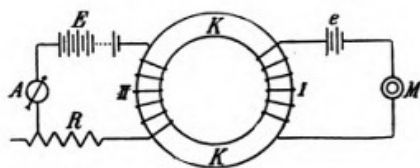
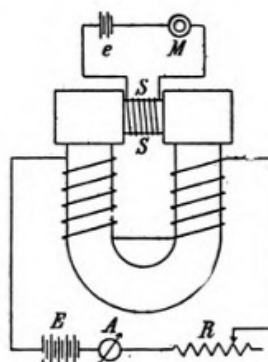
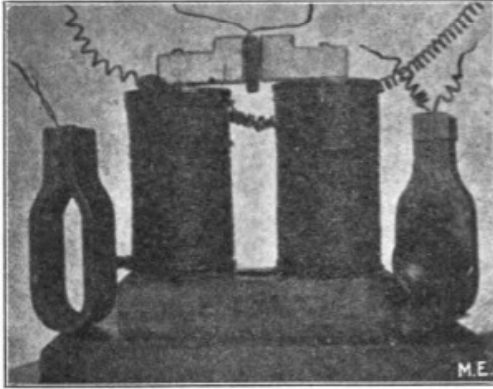

Fig. 1
Fig. 2
Fig. 3
Professor Peukert developed his experiments as follows. He first took an iron ring, K, Fig. 1, made of soft iron wire, wound in one piece. He
The second experiment is illustrated in Fig. 2. Fig. 3 shows the arrangement as actually used by the experimenter.
the smallest particle. This explains why the new instrument reproduces so powerful. This result can even be increased by placing a shallow, funnel shaped ear piece on one side of the magnet (Fig. 3, right-hand side). By pressing this against the ear the faintest sounds are made audible.
Another, and very important, feature of the new receiver is that the disagreeable crackling noises so often experienced with the old receiver are entirely eliminated. Fig. 3 (left-hand side) shows the simplest form of this receiver.
By referring to Fig. 1 it will be seen that the arrangement closely resembles the ordinary A. C. transformer. Therefore experiments were made with regular commercial transformers, the results always being surprisingly satisfactory. The big trans-
Examine the base of the clock to see if it is made of wood, which is nearly always the case. If so, mount the strip of brass or copper, as shown in Fig. 1 at S. When the hammer H (Fig. 1) is raised, indicated by dotted lines, it will make contact with the spring S, which is held in place by the bolt B passing through the spring S and the bottom of the clock. In case the bottom of the clock is not made of wood or some other insulating material (which would be a rare exception), the bolt and spring must be insulated from it by rubber or leather washers X (Fig. 2). The hole in the base of the clock will have to be about three times the diameter of the bolt, so
that the bolt will not touch the sides of the hole (Fig. 2). The washers P are brass or copper.
-FIG 2-
can be easily constructed. The arrangement of the striking circuit is shown in Fig. 3.
M.E. -FIG. 3-
over the end of the upper set screw, so that the armature will make no noise on being released. These bells or sounders are connected in series, as shown in Fig. 3. The number of cells of battery required depend upon the length of circuit and number of strikers used. Common dry cells, or salomonic batteries, give good service.